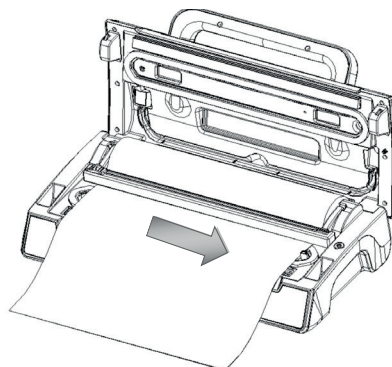

Fig. 4
4. Put down the cutter rack and make sure it is on the right place of the bags, then slide the cutter from one end to the other end to cut the bag. (Fig.4)